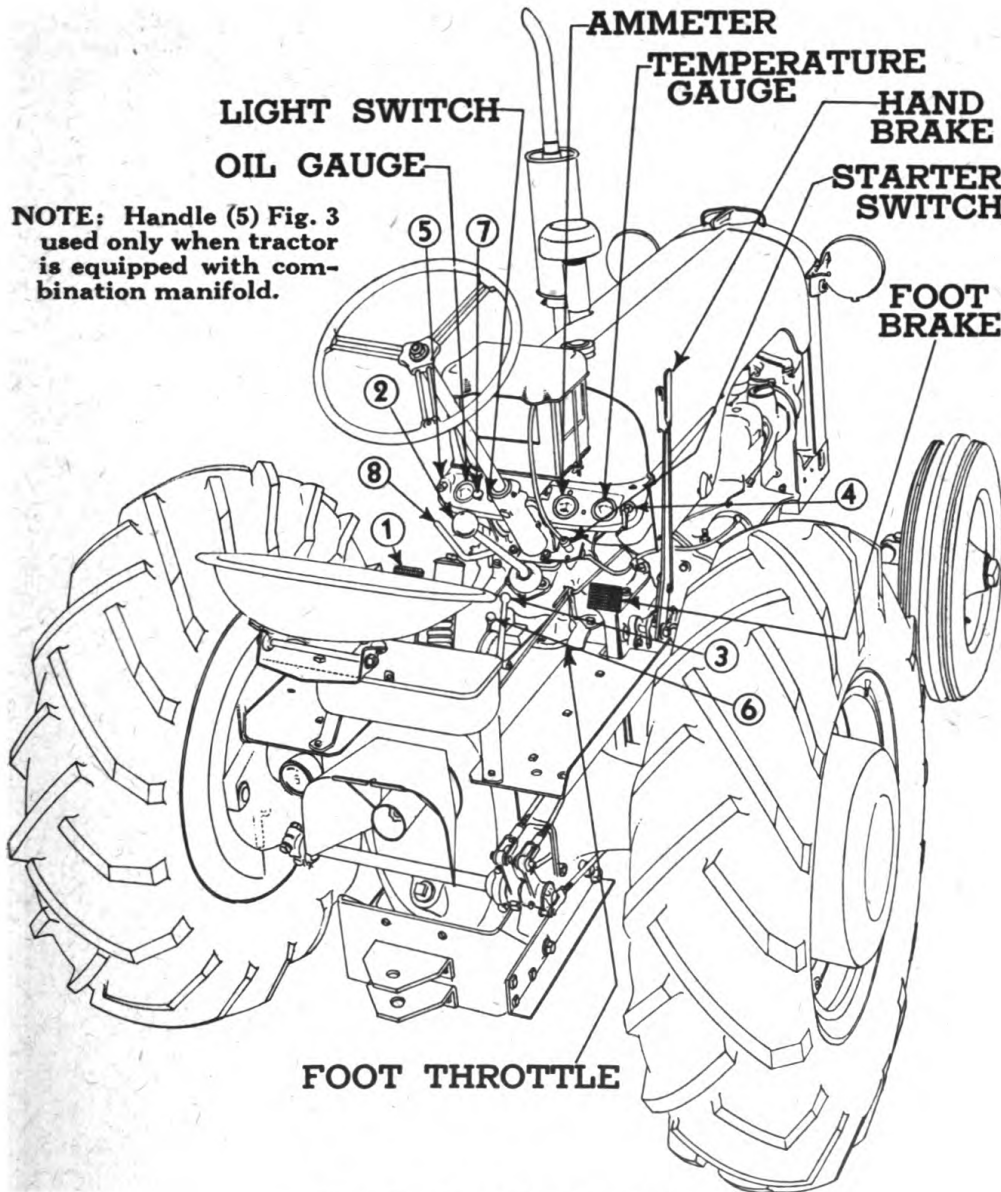

Fig. 3. Operating Controls
11. Work the clutch pedal 1, Fig. 3 to see that clutch does not stick, that shoe does not bind on brake sleeve and that both engage properly when operated.
- B. Place gear shift lever 2, Fig. 3 in the neutral position.
- C. Set the throttle 3, Fig. 3 at about mid position. Pulling back on lever 3 opens the throttle and causes the engine to operate at higher speed.
- E. Pull the choke 7, Fig. 3, out $\frac{1}{2}$ to $\frac{3}{4}$ of its full travel when starting the engine when cold. As the engine gradually warms up, push the choke in. No definite set point can be recommended as it will vary slightly on one engine as against another. It functions the same as a hand control choke which has been used on automobiles and trucks for years.
Depress the clutch pedal 1, Fig. 3, and shift into the road speed desired, and gradually release the clutch pedal.
It is recommended that the engine be throttled down before disengagement of the clutch. If the tractor is to remain standing, place the gear shift lever 2, Fig. 3 in neutral and apply the hand brake to prevent the possibility of the tractor starting should the tractor be standing on a grade. It is advisable to shut off the engine to save fuel rather than idling for long periods of time.
Ground the magneto and with the carburetor choked, Turn over the engine a few revolutions, observing if the impulse coupling is working freely. Pull the choke 7, Fig. 3 out $\frac{1}{2}$ to $\frac{3}{4}$ of its full travel and the throttle lever in one-half open position. Put the magneto grounding lever in the running position. Turn over the engine with the electric starter, or by hand. When hand cranking the engine, do not spin, but pull the crank across the radiator instead of in a vertical direction. Increasing the speed with a moderately quick pull of the crank just prior to passing center, will facilitate starting.